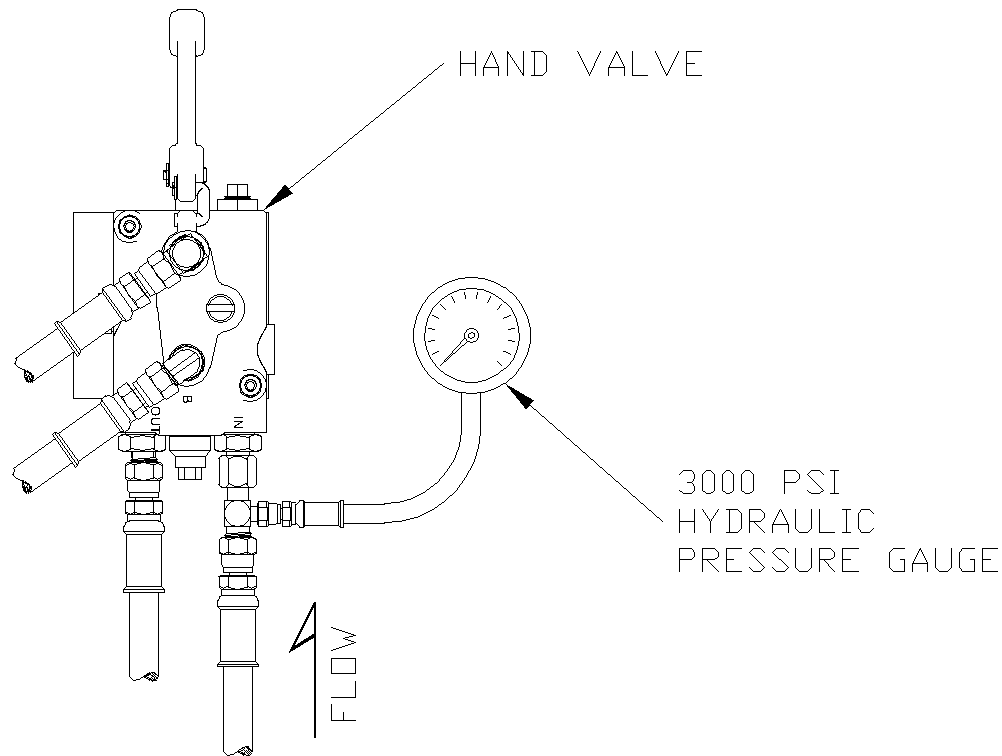

**Figure I-4**
*The diverter valve ( 1 ) ( figure I-4 ) supplies the cart lifter hydraulic system with approximately 2 GPM of oil flow. This diverter valve is equipped with a full system relief valve ( 4 ) set at 2500 psi, to protect the truck's hydraulic system from any blockages that may occur down stream of the diverter valve. The diverter valve also includes a lifter circuit relief valve ( 3 ) set at 2300 psi, to prevent the diverter valve from shutting down if a blockage occurs in the lifter circuit. There is also a relief valve ( 5 ) set at 1800 psi in the hand valve ( 2 ) to protect the lifter from excessive pressure. These relief valves are preset from the factory to operate properly on most trucks with a system pressure between 2300 and 2500 psi without any adjustment. However, if any adjustment is necessary, follow these instructions.*
2. Remove the cap nut(s) ( 8 ) ( *figure I-4* ) from the hand valve relief valve(s) ( 5 ) and turn the adjustment screw(s) clockwise until it bottoms out.
3. Loosen the lock nut ( 6 ) ( *figure I-4* ) on the lifter circuit relief valve ( 3 ) and turn the adjustment screw clockwise until it bottoms out.
4. Loosen the lock nut ( 7 ) ( *figure I-4* ) on the full system relief valve ( 4 ) and turn the adjustment screw counter-clockwise until it stops backing out.
7. Operate the handle on the hand valve ( 2 ) ( *figure I-4* ) back and forth a few times to bleed all air from the lifter hydraulic system.
- a) Have an assistant hold the handle on the hand valve ( 2 ) ( *figure I-4* ) in the "retract" position. *If installing dual lifters hold the handle down on only one of the hand valves.*
- a) Have an assistant hold the handle on the hand valve ( 2 ) ( *figure I-4* ) ( *with pressure gauge installed at the "IN" port* ) in the "retract" position to show pressure on the gauge.
- a) Hold the handle on the hand valve ( 2 ) ( *figure I-4* ) ( *with pressure gauge installed at the “IN” port* ) in the “retract” position to show pressure on the gauge.
15. Reinstall the cap nut(s) ( 8 ) ( *figure I-4* ) on the hand valve relief valve(s) ( 5 ) to secure the correct pressure setting(s).
16. Tighten the lock nut ( 7 ) ( *figure I-4* ) on the full system relief valve ( 4 ) to secure the correct pressure setting.
17. Tighten the lock nut ( 6 ) ( *figure I-4* ) on the lifter circuit relief valve ( 3 ) to secure the correct pressure setting.